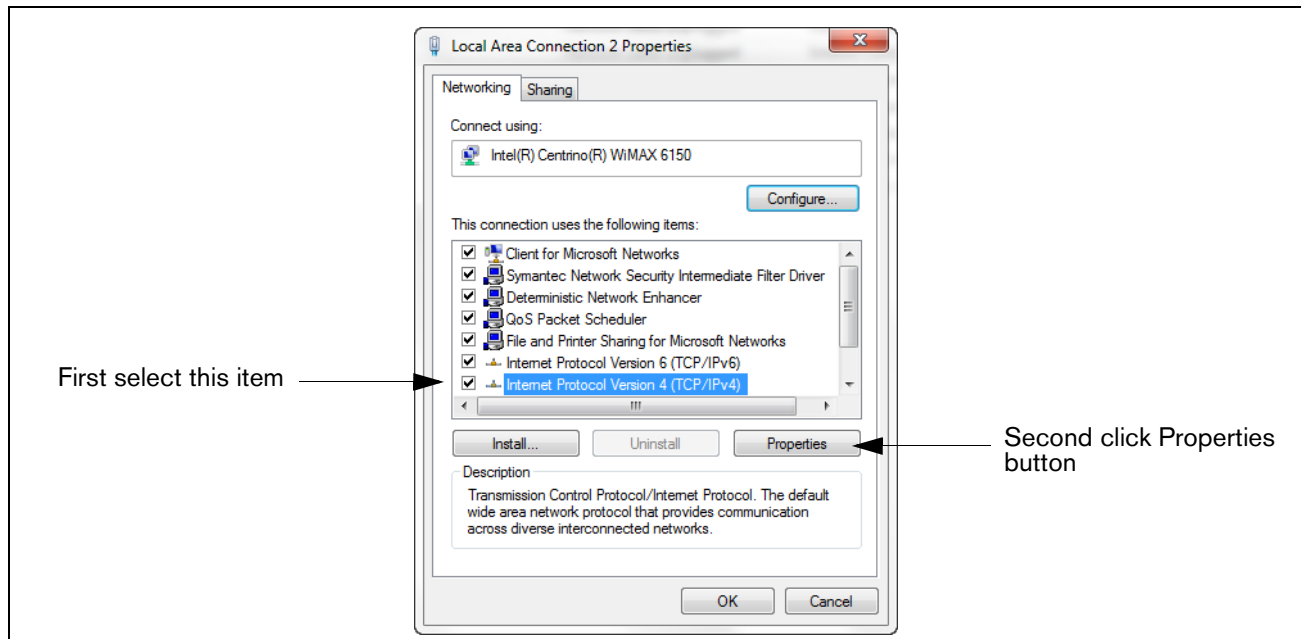

Figure B-2. Local Area Connection 'X' Properties dialog box selections
4. When the selected Local Area Connection Properties dialog box opens make the selection shown in Figure B-2.